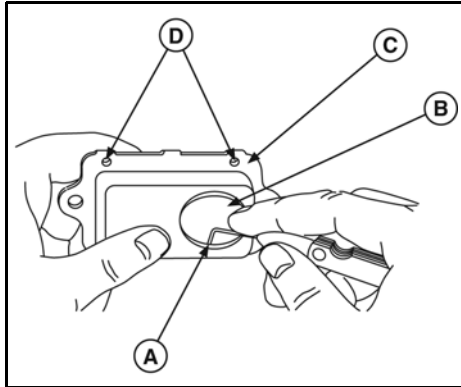

Figure 4
3. Inspect oil drain-back holes (C, Figure 4) to make sure they are open. Clean as needed.
4. Using 0.045" (1.14 mm) wire gauge, check clearance between the disc valve (B) and the housing (A). If gauge can be inserted, replace the breather assembly.